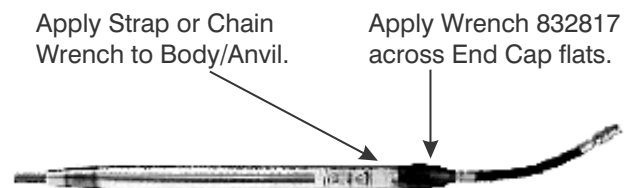

Figure 8-2. Loosening the End Cap
1. Place the Hole-Hog on a level surface. Holding the body/anvil (1) with a strap wrench, use wrench P/N 832817 from the Tool Kit to loosen the End Cap (9). It may be necessary to strike the wrench handle several times with a hammer to loosen the End Cap. Refer to Figure 8-2.